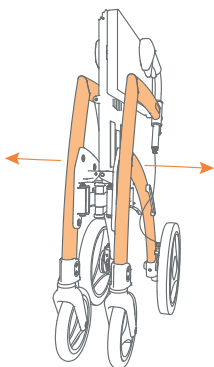

Figure 7: Unfold by pulling the frame outwards.
- a. Pull the frame sides of the Rollz Motion apart until almost completely unfolded (**Figure 7**).